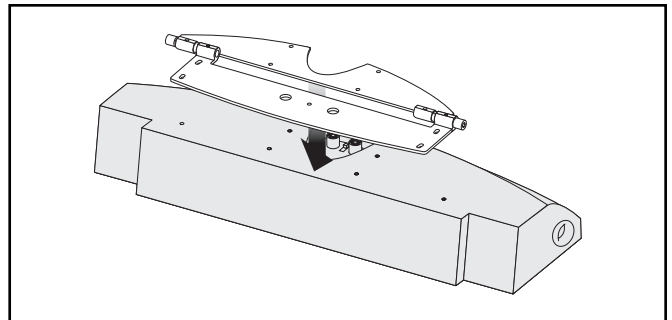

Figure 14. Align the 6 holes on the mounting bracket with those of the Fresco.
- 4 Align the 6 holes in the Fresco's wall mounting bracket with the holes on the back of the Fresco's cabinet. Please note that the wall bracket should lie flat against the Fresco cabinet with the hinges along the flat, straight edge of the cabinet (see figure 14).